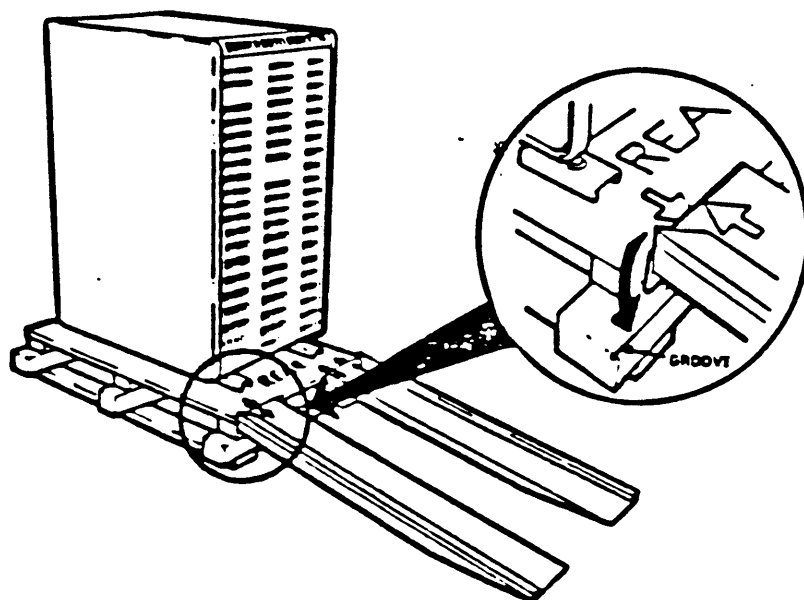

Figure 2-17. Engaging the Ramps.
Step 4: Engage the ramps in the skid grooves, aligning the arrows as shown in Figure 2-17.